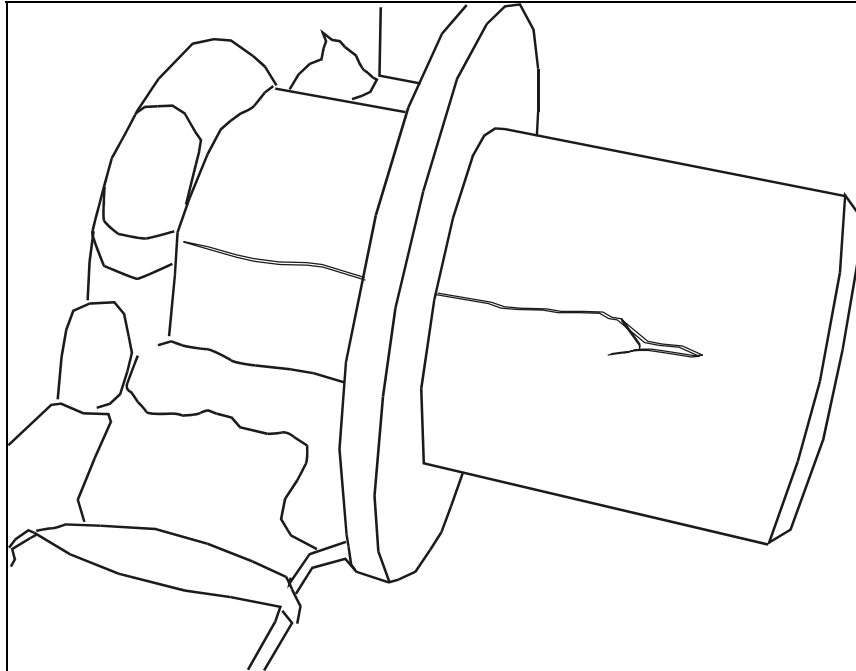
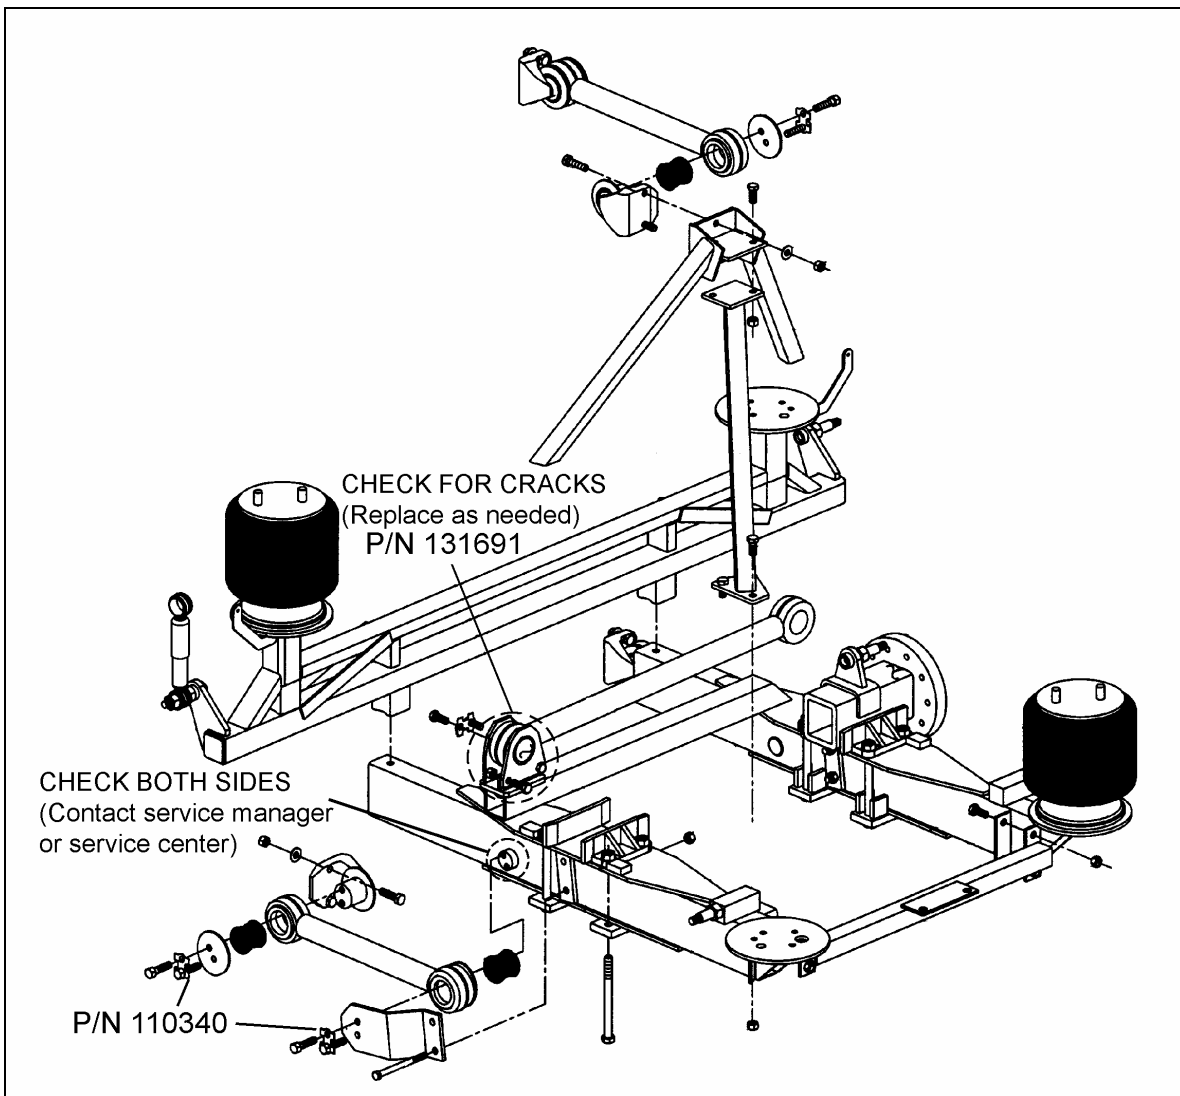

FIGURE 1: EXAMPLE OF CRACK
FIGURE 5: REAR SUSPENSION
2. Check support pin surface for cracks (Refer to example in figure 1).
2. Check support pin surface for cracks (Refer to example in figure 1). If a defective support pin is detected, it must be replaced (Refer to figures 5, 6, 7 and 8).